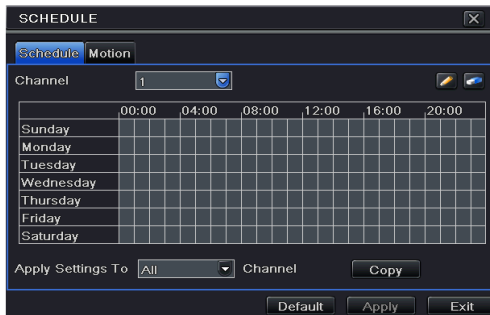

Fig 4-14 Schedule Configuration-Schedule
Step 1: Enter into Menu→Setup→Schedule interface. Refer to Fig 4-14: